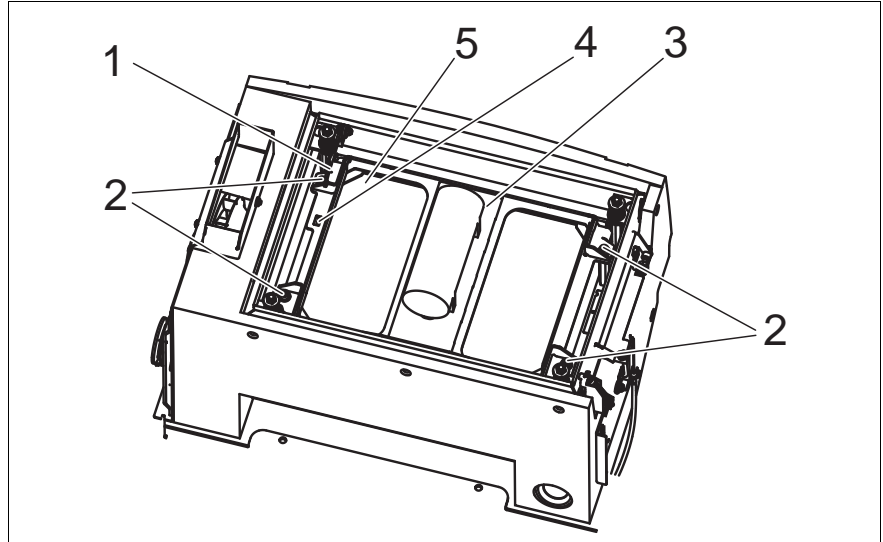

Fig.17 Plate Filter
- Loosen fillister head screws (Fig. 17/2) and remove.
- Fold back frame with shaking motor (Fig. 17/3).
- Hook frame at indicated position (Fig. 17/4).
- Remove plate filter (Fig. 17/5).